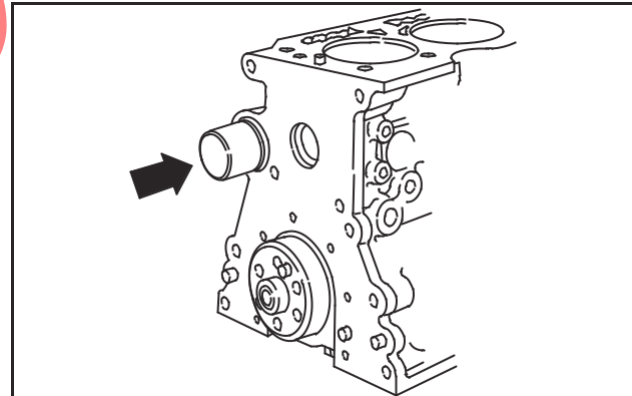

Fig. 9 – Installing Camshaft Plug
- a. Install camshaft plug flush with cylinder block, Fig. 9.